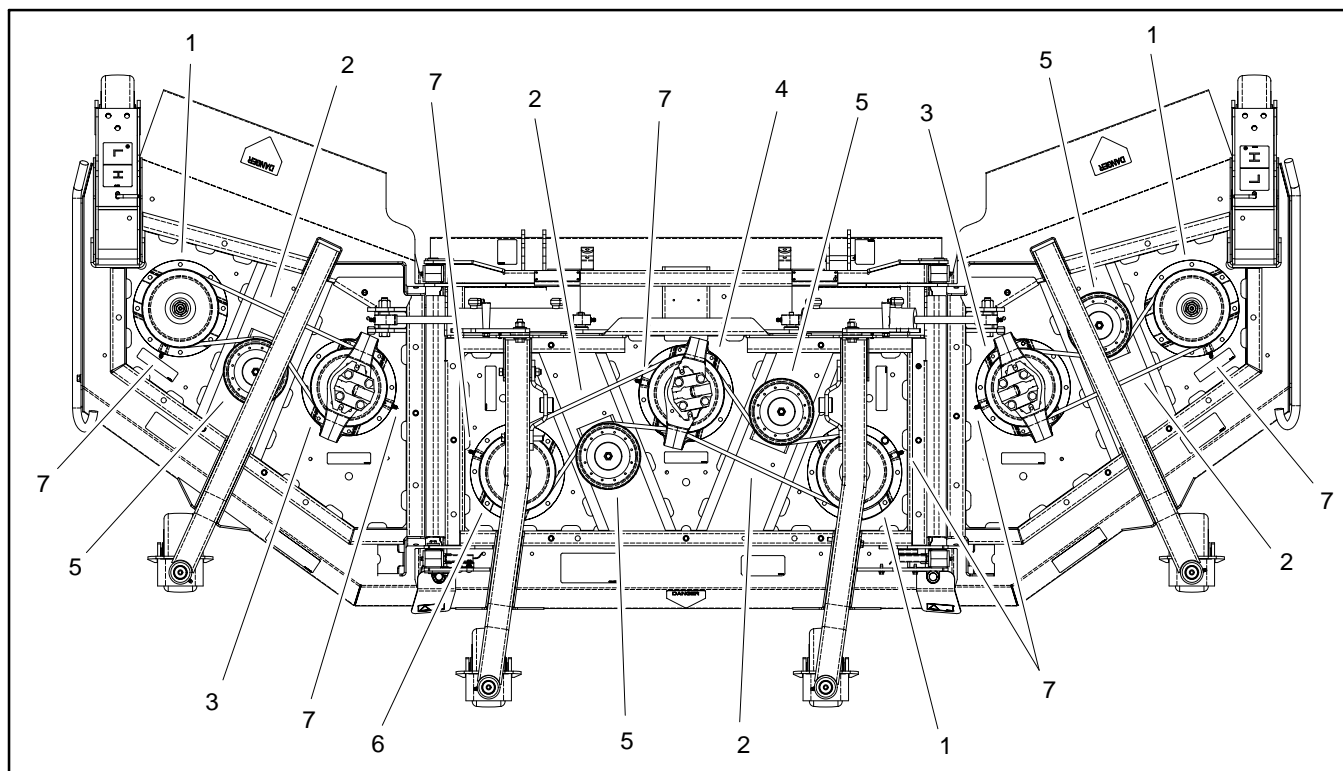

Figure 14
1. Position spindle on cutting deck noting orientation of grease fitting (Fig. 14). Secure spindle assembly to deck with correct fasteners.